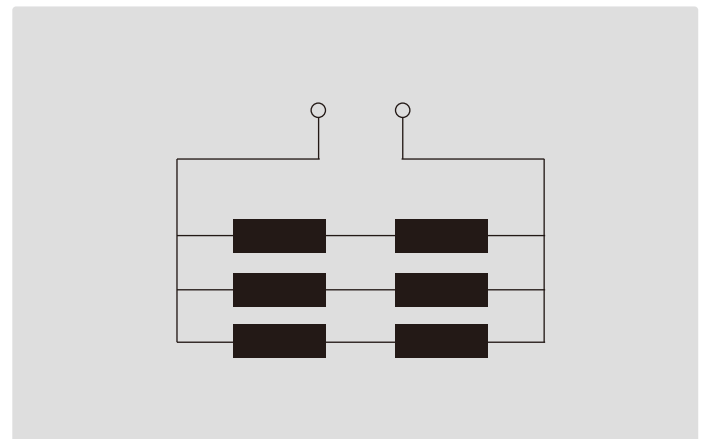

Fig.2 Single-phase 2 units, series connection and parallel connection
2. Single-phase 2 units series and parallel connections(Fig.2)